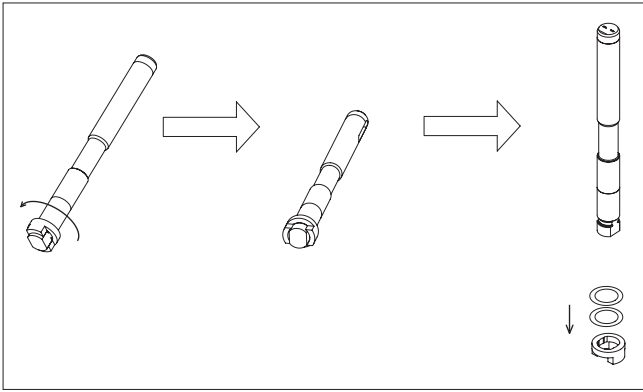

Fig. 19 Detaching the thrust ring in sizes 1" and 1.5"
- Remove the gland nuts (18), spring sets (150) in live loaded versions, one stud (14), retaining plates (42) and gland (9). Remove the packing (69). Remove the pin (50). Remove the spline driver (2"-8") or thrust ring (1"-1.5") inside the body. For detailed figures to remove the thrust ring see Fig. 19. Remove the shaft (5) by pulling it outwards. Please note that this will detach the thrust bearings (70) from around the shaft.